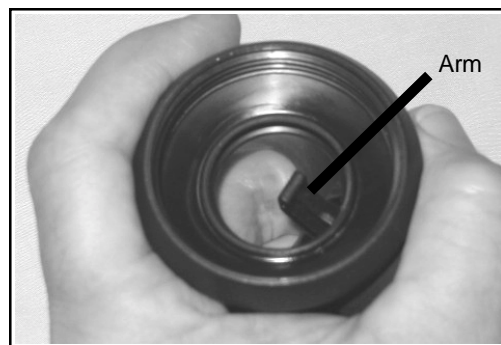

Fig. 3
7. Hold the UPPER HOUSING ASSEMBLY (4) secure with one hand and pull the Lower Power Inflator straight away several times. The Arm on the RAPID EXHAUST CABLE (6) will pivot outward indicating that the CABLE is securely intact and of the correct length (Fig. 3).
8. Inspect the CORRUGATED AIRWAY HOSE (8) for any signs of decay or damage that may result in future leakage. Replace with new if found.